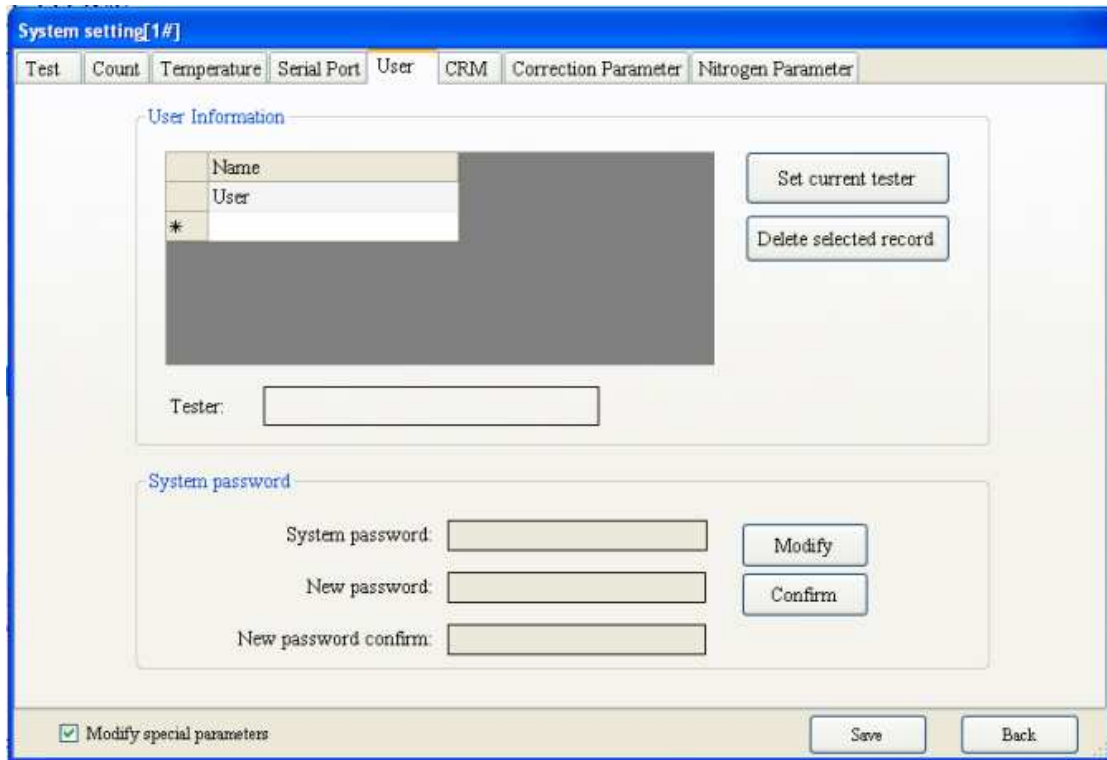

Fig. 4-3-6
4. User: Click on "User Information" at "System Setting" window, window shown as Fig. 4-3-6 will popup.